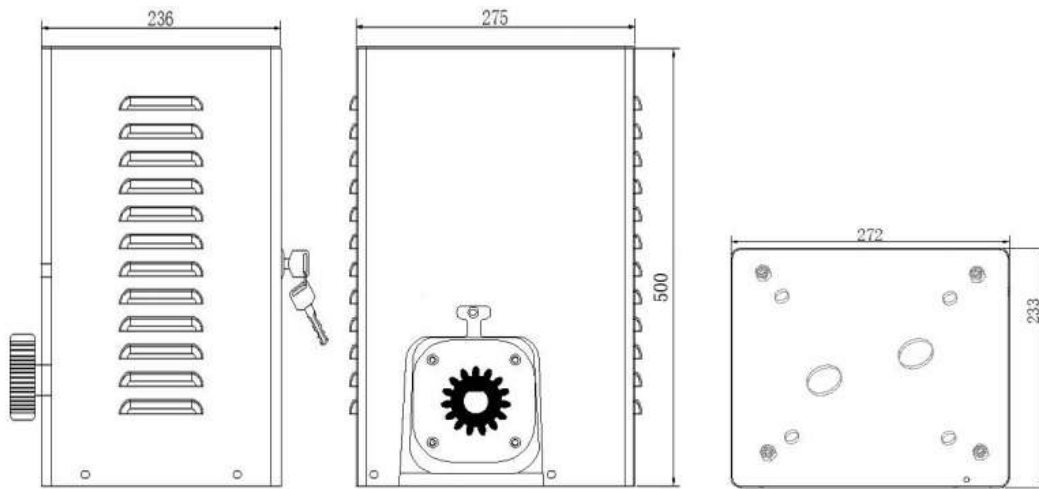

Figure 1
The dimensions of the door engine are shown in Figure 1. The door engine is composed of high-strength aluminum alloy housing, iron housing, high-quality single-phase motor, overrunning friction clutch, worm gear reducer, tooth clutch and output gear. When working, the motor spindle drives the reducer and the output gear through the transcendent friction clutch, and then the output gear drives the special rack installed on the translation door, so that the door body moves horizontally to realize the electric opening and closing of the door.
7.1 J1 Terminal - Power Supply (Figure 1)
7.1 J2 Terminal - Flashing Light (Figure 1)
7.1 J3 Terminal - Accessories (Figure 1)